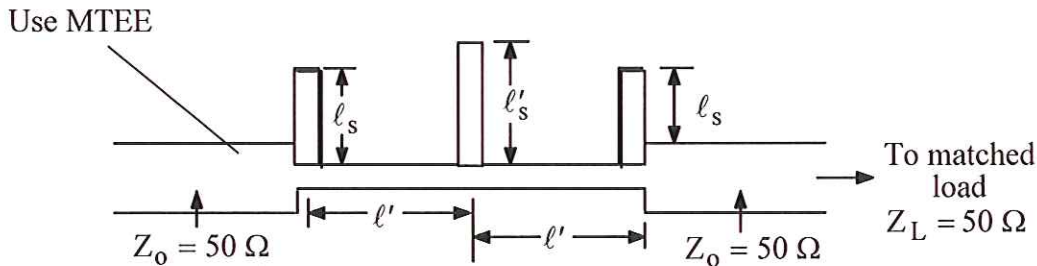

Fig. 3. Circuit of Fig. 2 realized with three one-sided open-circuited shunt stubs instead of lumped capacitors.
- Repeat Step 3 using one-sided open-circuited stubs (as shown in Fig. 3) in lieu of the lumped capacitances C_1 and $2C_1$. With the HP ADS software, include as well as neglect the end capacitances for the open-circuited stubs. Use $Z'_o = 100 \Omega$ as the characteristic impedance for the shunt stubs.
- Redesign the circuit of Fig. 3 using **balanced two-sided stubs** instead of single-sided stubs. For this circuit, calculate and compare the results for S_{11} and S_{21} with those obtained in Step 4. Explain the differences if any.